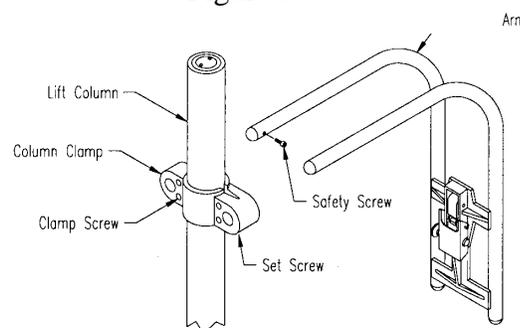

Figure 4
28. Arm should be 1/2" above the tub rim. If adjustment is necessary loosen the fore clamp screws in figure 4 and reposition as necessary. Re-tighten the four clamp screws and recheck the seat to tub clearance. If the proper clearance is there, torque the clamp screws to 40 ft lbs. (Continue with step 32)
39. (If no Scale) Slide the upper arm/seat back toward the column clamp until the clearance between the green plastic latch and the inside wall of the tub is about 1 inch. Tighten the Upper Arm set screws as shown in figure 4.